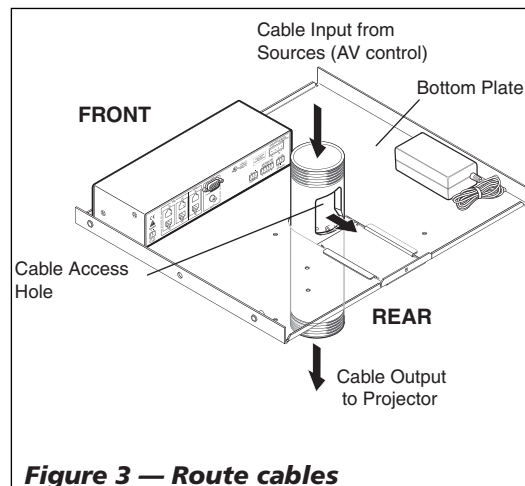

Figure 3 — Route cables
6. **Route the cables** so that they exit the pipe via the cable access hole (Figure 3).
7. Using the supplied 4-40 screws, **secure the devices to the bottom plate.** Figure 3 shows the PVS 204 screwed to the plate with a power supply attached by the supplied Velcro pads.